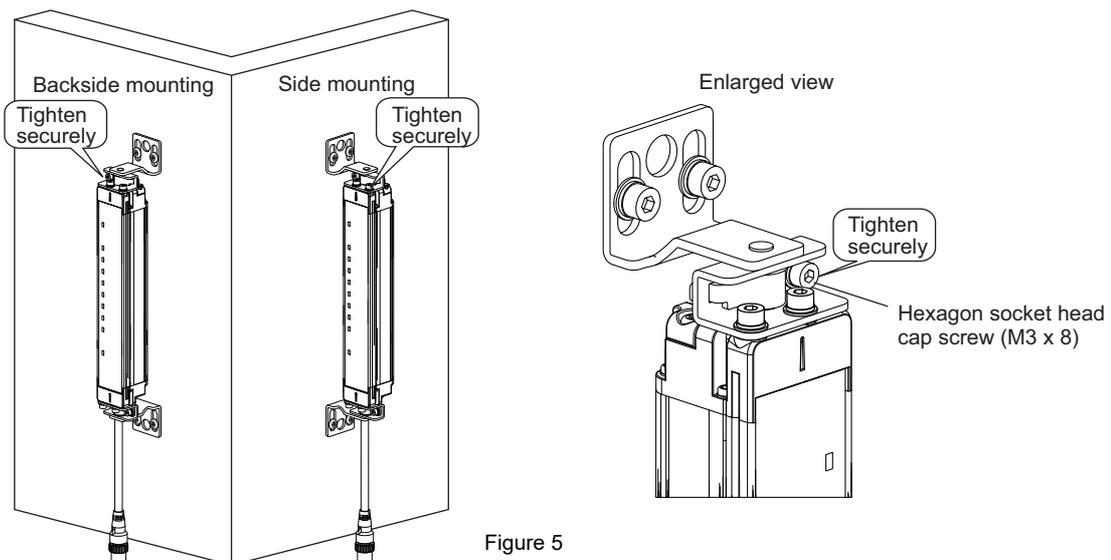

Figure 5
**4.** Tighten the lightly tightened hexagon socket head cap screws (M3 x 6) of the Top/Bottom Brackets. (Figure 5)